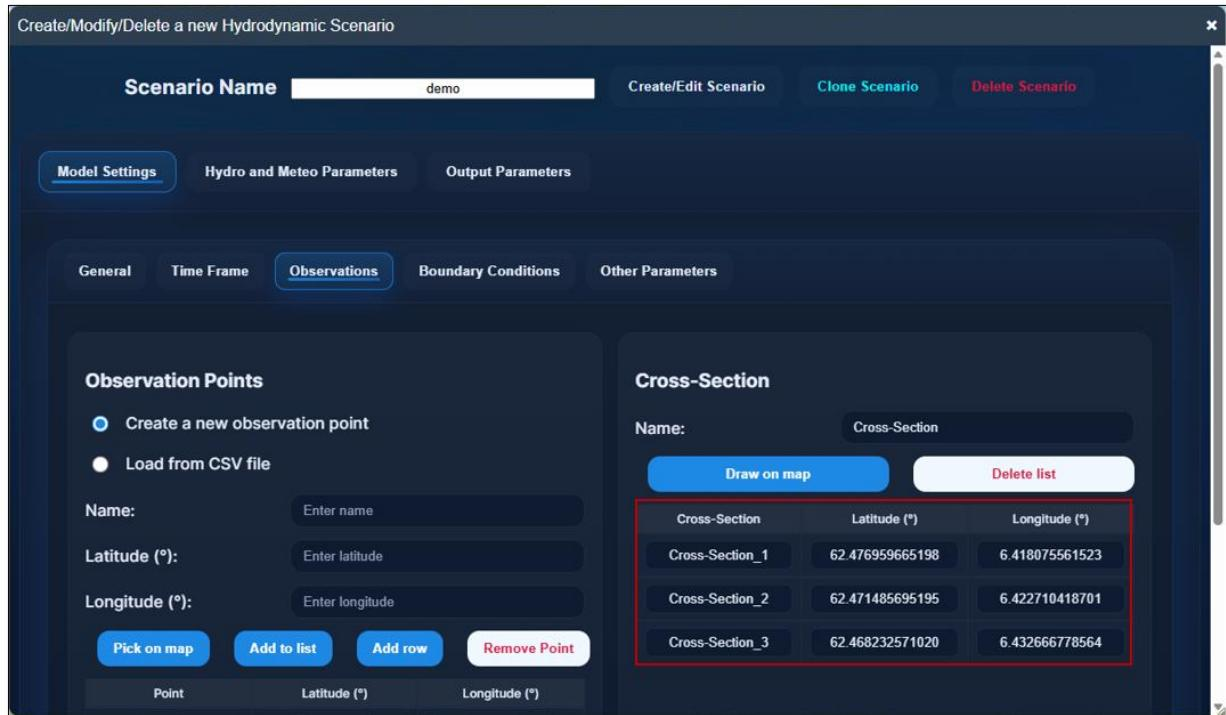

Figure 2.15. Finish creating a cross-section
NOTE: In some (rare) cases, users may occasionally see that the number of points selected on the map does not match the number of points displayed in the list in Figure 2.15. For
- *Step 4:* After the user finishes, the window in *step 2* will appear with the vertices of the cross-section selected (**Figure 2.15**). If the user wants to entirely delete the existing cross-section, hit the “**Delete list**” button and draw a new one.